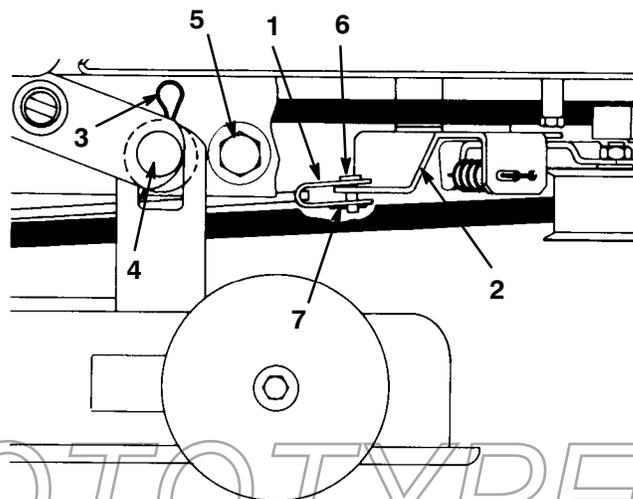

Figure 18
- Remove cotter pin and clevis pin securing deck brake rod to idler bracket (Fig. 18).
10. Remove (2) hairpin cotters and washers retaining mower housing to mounting pins (Fig. 18). Grasp mower housing and move it to the side until housing slides off pins, then forward to allow front mounts to drop.
5. Remove capscrews, retainers and locknuts securing deck stops to each side of mower frame (Fig. 18). Slide mower housing rearward to release belt tension.